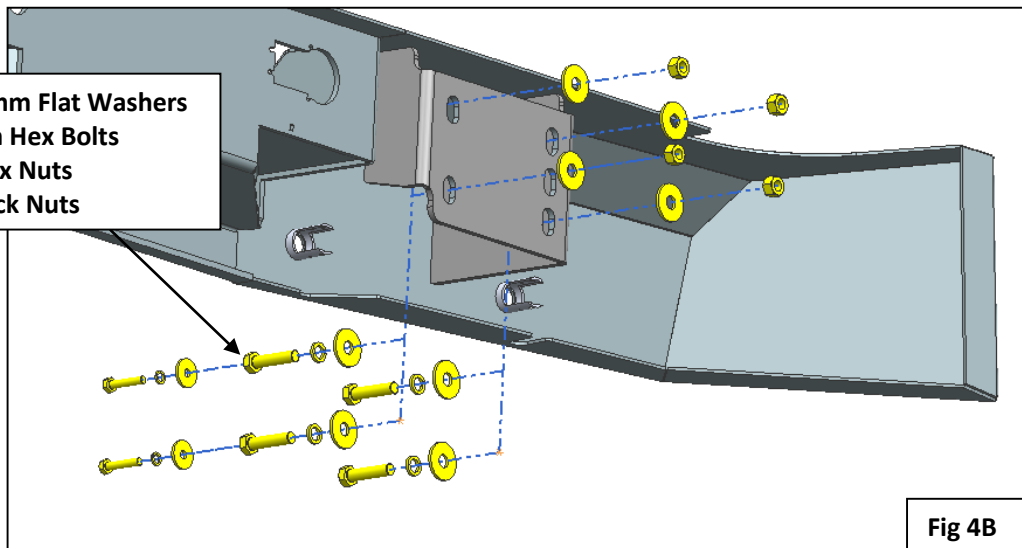

Fig 4B
b. Models without 8mm Welding Nut (Fig 4B):